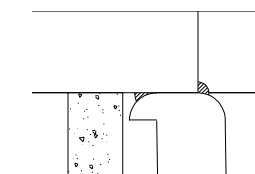

Fig 2.
Note: if the cut out is adjusted to either overhang or step back from the sink rim sufficient surface area must be left to allow a water tight seal, fig. 2 shows the cut out flush to the bowl radius.
- Gently lay the worksurface onto the sink, carefully align the sink rim with the cut out shape with equal spacing on all sides (fig 2).